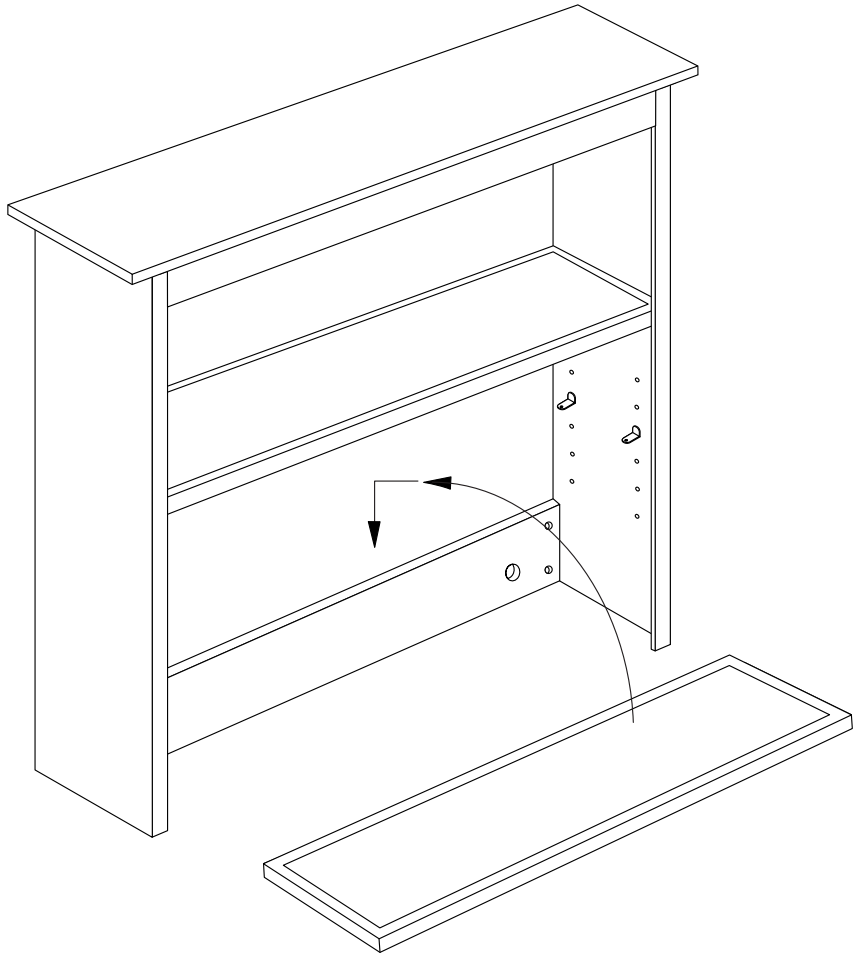

Figure 6A:
- A.** According to your need, choose a desired shelf height position and insert the shelf pegs as shown in Fig. 6A.